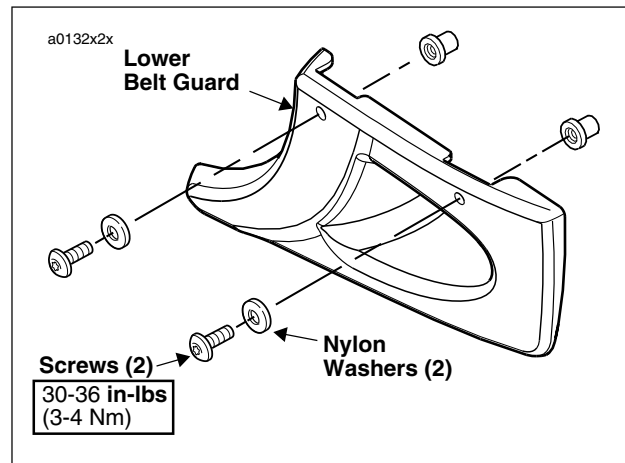

Figure 2-101. Lower Belt Guard
1. See Figure 2-101. Remove two screws and nylon washers securing lower belt guard to swingarm.